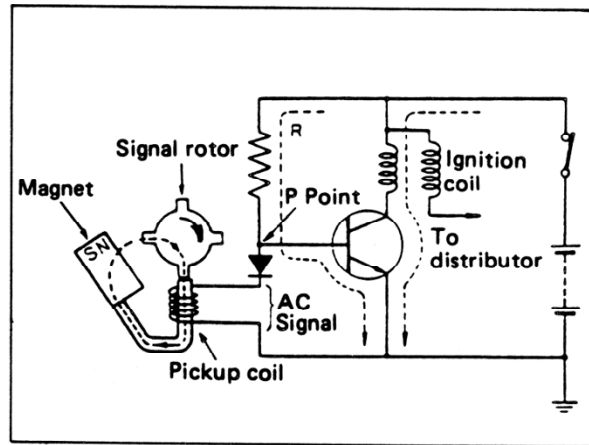

Fig. 9-197 Principle of Fully Transistorized Ignition
(1) Fig. 9-197 shows the principle of fully transistorized ignition. When the signal rotor is inoperative, since potential at point P which is determined by partial pressure caused by resistance R and resistance in the pickup coil, is set higher than the operating potential of the transistor (approximately 0.6 V), the transistor is turned ON. As a result, primary current flows in the ignition coil.